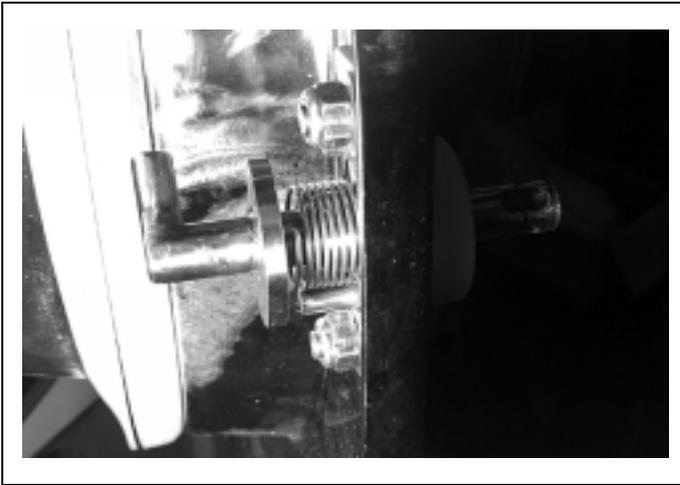

FIGURE 9 (MSSM0288AE)
2. Insert shaft into door and insert return spring end into retaining hole in door shaft cam (FIGURES 9 and 10).